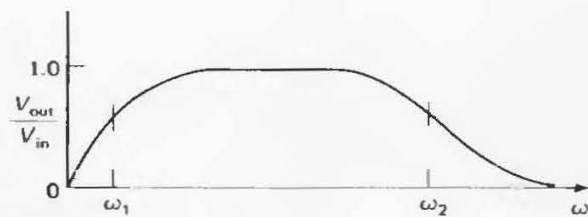

Figure 1.109
(6) Design a bandpass  $RC$  filter (as in Fig. 1.109);  $f_1$  and  $f_2$  are the 3dB points. Choose impedances so that the first stage isn’t much affected by the loading of the second stage.